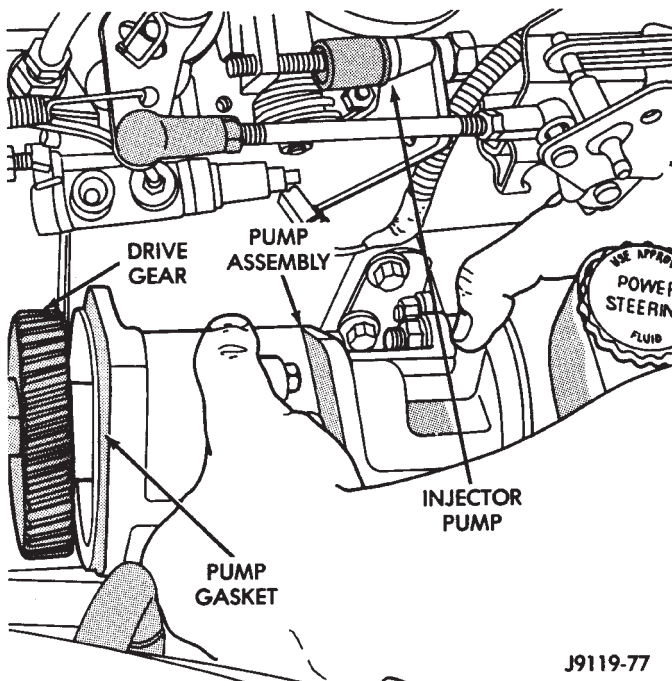

Fig. 116 Installing Pump Assembly On Engine
(15) Insert pump assembly upper attaching bolt in mounting flange and gasket. Use sealer or grease to hold bolt in place if necessary.
(16) Position pump assembly on engine and install upper bolt (Fig. 116). Tighten upper bolt only enough to hold assembly in place at this time.